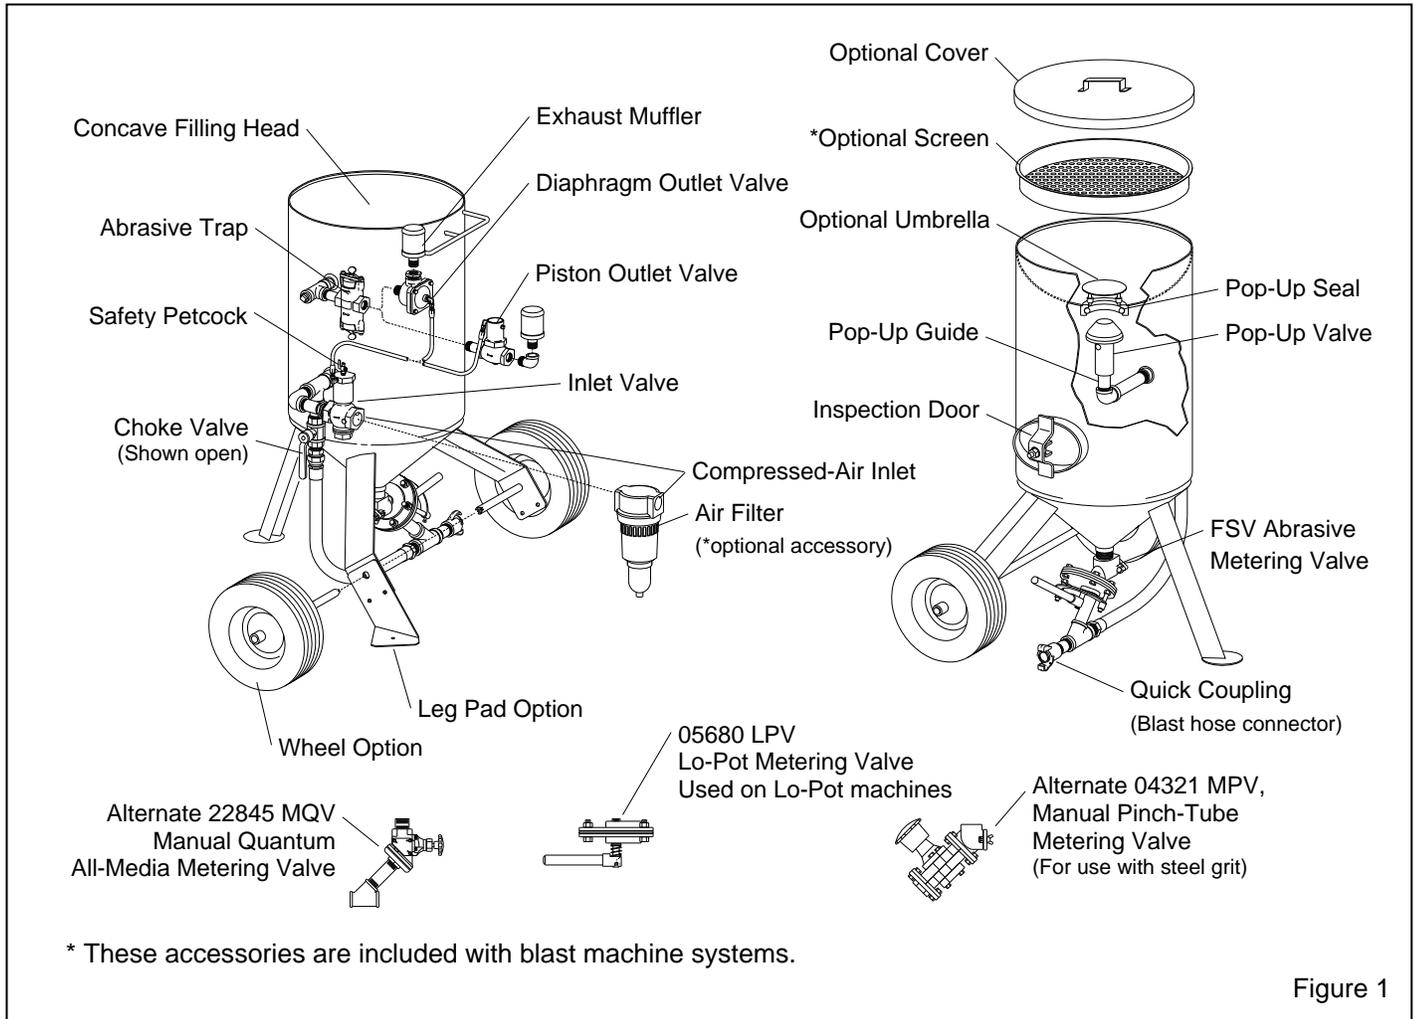

Figure 1
1.4.1.1 The primary components of the blast machine and the remote control system are shown in Figure 1. Additional components of the remote controls are shown in Figure 2. Additional parts used with optional ACS system are shown in Figure 9.
**1.4.3.3** Components of the TLR remote control system are shown in Figures 1 and 2. They include the inlet valve piston or diaphragm outlet valve (the piston valve is used in most applications, the diaphragm valve is recommended for use with fine mesh or aggressive abrasive), RLX control handle, 50-ft. and 5-ft. long twinline control hoses, 2 control hose unions, and an 18-inch-long interconnecting hose.
Clemco supplies an exhaust muffler with all blast machines of 2 cuft capacity and larger. The muffler reduces exhaust noise and prevents abrasive from exhausting upward or sideways into the air. When the blast machine is depressurized, the muffler body pops up to diffuse the air and abrasive. When the machine is fully depressurized, the muffler body drops, permitting trapped abrasive to empty. For the muffler to work properly, it must be installed with the body facing up, as shown in Figure 1.